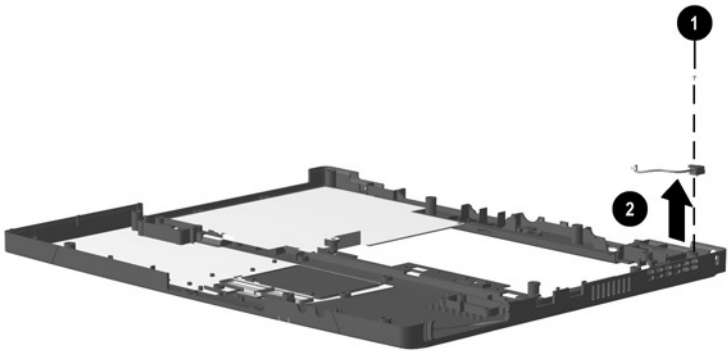

Figure 5-16. Removing the Display Lid Switch Board
3. Remove the silver M1 × 4.0 screw ❶ that secures the display lid switch board to the top cover (Figure 5-16).
4. Remove the display lid switch board ❷ from the top cover.